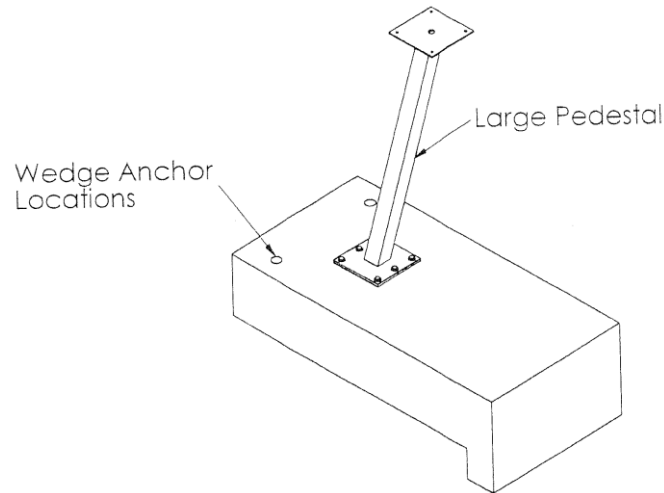

Figure 2
(1) Lower Umbrella Ring
(2) 4" Bronze Wedge Anchors (Optional)
Step 1: Attach the large pedestal to the permanent guard chair anchor installed in the concrete deck as shown in figure 2.